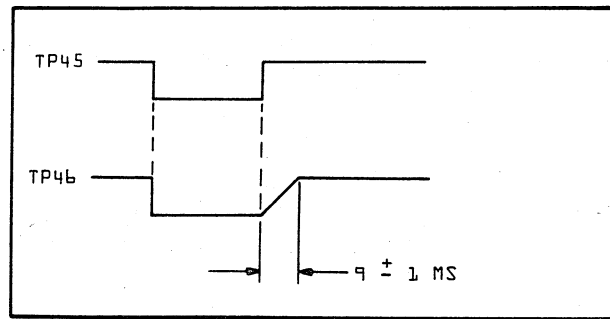

FIGURE 7-18. WAVEFORM (POT P8)
1. Trigger the oscilloscope from TP45 and observe wave form at TP46. On positive going edge of TP45 signal, set potentiometer P8 to obtain a ramp of 9 ± 1 milliseconds of wave form at TP46 (Figure 7-18).